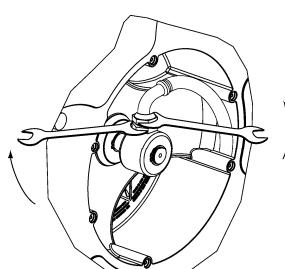

Fig. 16
- Unscrew the hose from the swivel using two spanners (Fig. 16).